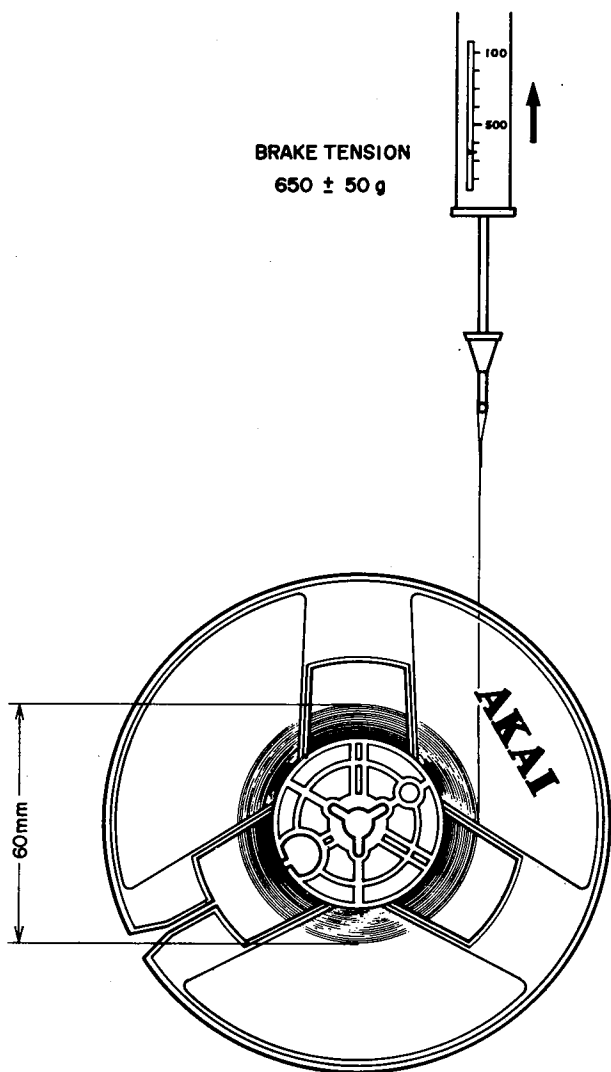

Fig. 7
- 1) Brake tension is adjusted using a 5-inch reel to take up 60mm-diameter tape. Measure the tension with a spring scale. Best brake tension is  $650 \pm 50g$ . The difference between both sides should stay within 50g. (Refer to Fig. 7.)